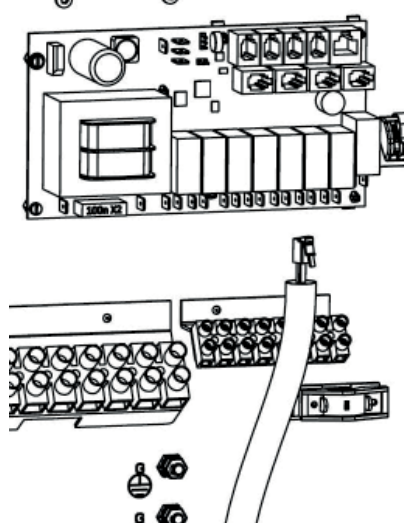

Fig. 14
**TOUS LES CÂBLES BASSE TENSION DOIVENT ÊTRE ENTOURÉS PAR LA GAINE FOURNIE, CONFORMÉMENT À LA FIG. 14**